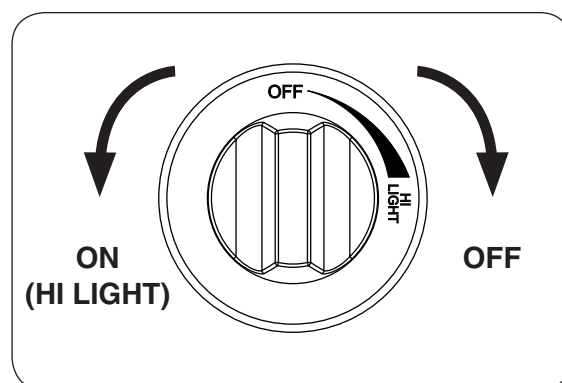

Fig. 35-2
- 4. **Once the match is burning and in position**, depress the gas control knob and turn it counter-clockwise to the **HI LIGHT** position (see Fig. 35-2). Your burner should light.
To extinguish your gas burner, depress the gas control knob and turn it clockwise to the **OFF** position (see Fig. 35-2). Be sure the control knob is turned fully off to avoid any gas leakage.